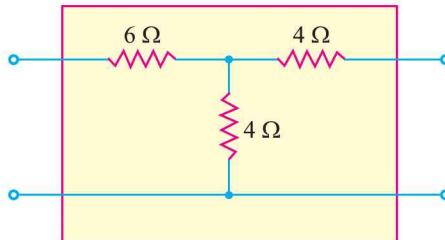

Fig. 24.16
- Determine the h -parameter values for the circuit shown in Fig. 24.16.